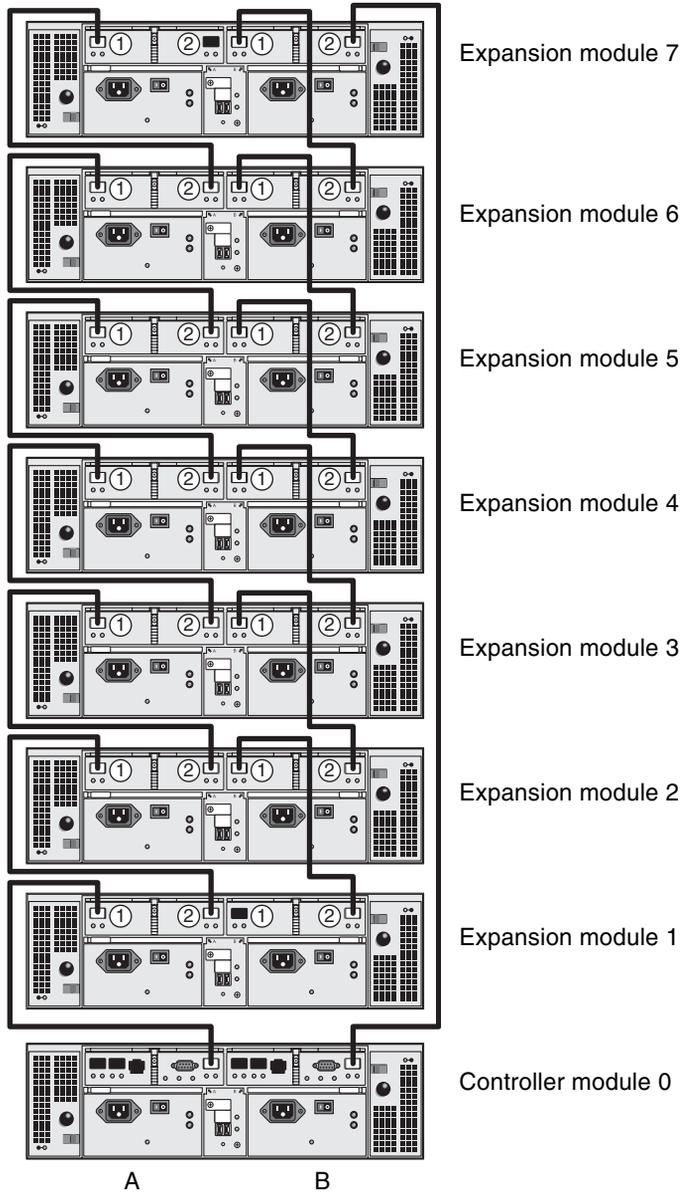

FIGURE 2-24 1x8 Array Configuration Cable Interconnection
3. Connect one FC cable between the A side expansion port of controller module 0 and the A side port 1 of expansion module 1 (FIGURE 2-24).
4. Connect one FC cable between the A side port 2 of expansion module 1 and the A side port 1 of expansion module 2 (FIGURE 2-24).
5. Continue to connect one FC cable between the A side port 2 of each expansion module and the A side port 1 of the expansion module directly above it, until the A sides of all expansion modules are interconnected with FC cables (FIGURE 2-24).
6. Connect one FC cable between the B side expansion port of controller module 0 and the B side port 2 of expansion module 7 (FIGURE 2-24).
7. Connect one FC cable between the B side port 1 of expansion module 7 and the B side port 2 of expansion module 6 (FIGURE 2-24).
8. Continue to connect one FC cable between the B side port 1 of each expansion module and the B side port 2 of the expansion module directly below it, until the B sides of all expansion modules are interconnected with FC cables (FIGURE 2-24).